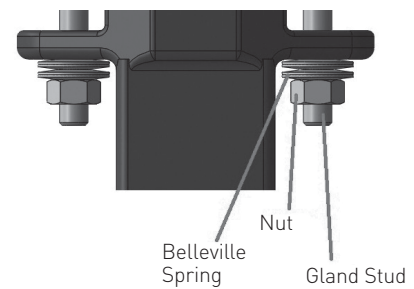

Figure 8 - Installing the Packing Set
1. Install the anti-extrusion packing ring (9), packing set (10), second anti-extrusion ring (9), shaft retention ring (11), bellville washers (15) and packing gland (12) into the upper journal of the valve body (1). (See Figure 8)
2. Keeping the disc assembly (2 - 7) in the closed position, tighten the packing nuts (16). Nuts have been correctly tightened when the packing gland plate (13) is flush with the valve body (1) top plate. Refer to the below table for bolt torque.